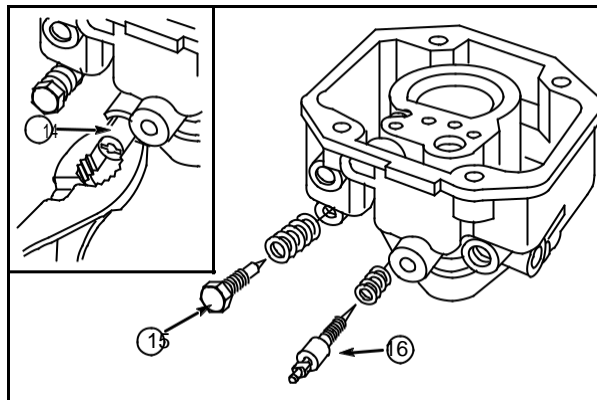

Fig. 101
If equipped, remove adjustment limiter cap (14) with a pliers (inset) before removing idle mixture screw, **Fig. 101**.